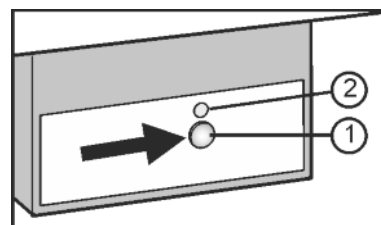

Fig. 12
- ▶ Press On/Off button *Fig. 12 (1)* so that the LED *Fig. 12 (2)* lights up.